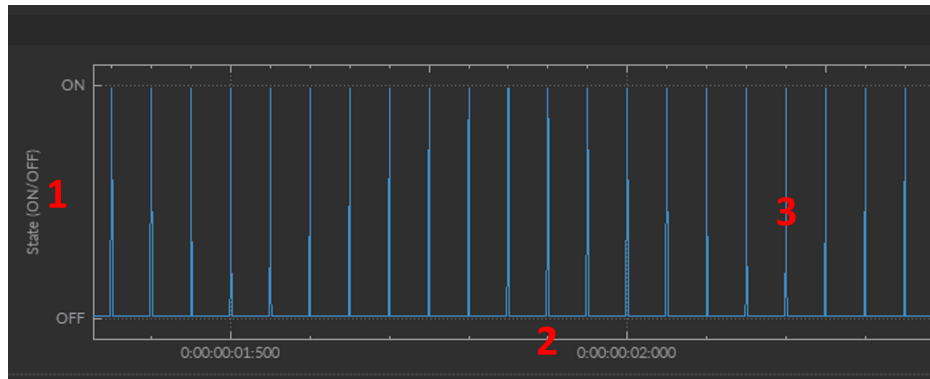

Figure 14.38: Digital I/O(s) View - Graph
1. The **Y-axis** (Fig. 14.38, 1) displays the Digital **State** of the channel, which can be either ON (1) or OFF (0).
2. The **X-axis** (Fig. 14.38, 2) displays the time in d:hh:mm:ss:zzz.
3. The **Trace** (Fig. 14.38, 3) can be edited by selecting the **Graph** button in Section 14.5.1.1, no. 3.